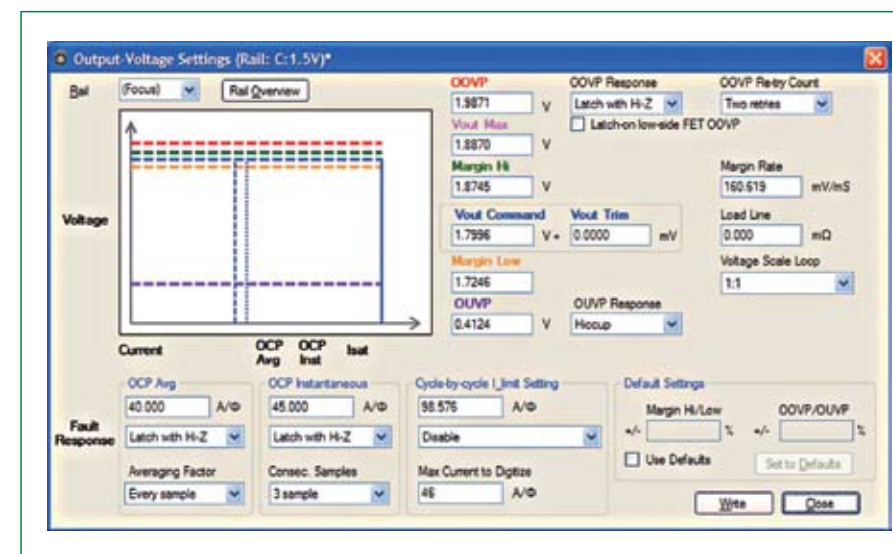

Figure 3: Intuitive Graphical Design.
5. An intuitive, and as the acronym implies, graphical design (Fig 3).